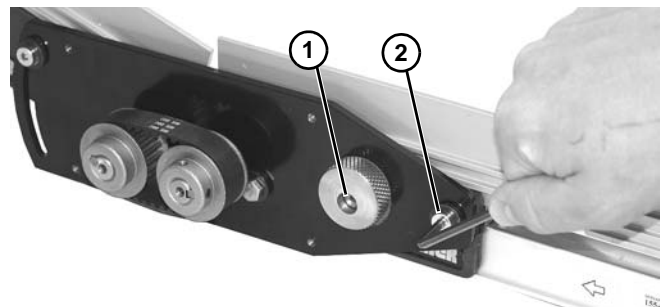

Figure 82
9. Tighten low head cap screw (**Figure 82, item 1**) in cam to lock belt tension.
10. Tighten screw (**Figure 82, item 2**) to 7 Nm to secure position.